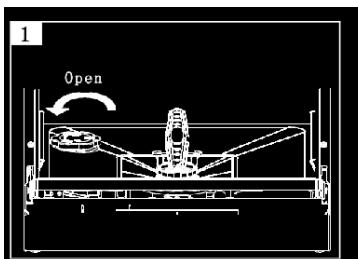

Fig. 1
2. Open the container closing (Figure 1).